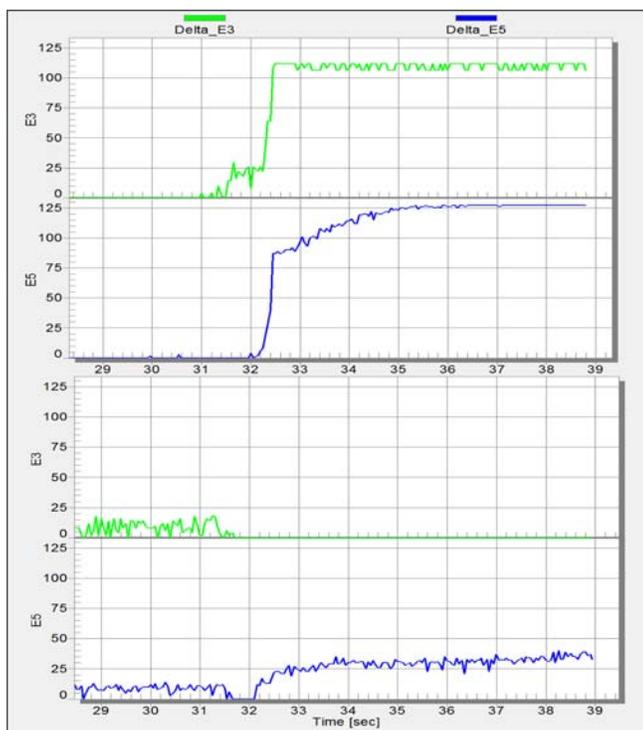

Figure 3. Disabling water tolerance to measure water effect and set a threshold
**Figure 3** illustrates the effect of the shielding function in removing water delta on the electrodes signals. It shows two graphics with a couple of electrodes instant deltas (E3 and E5). The figure shows only the